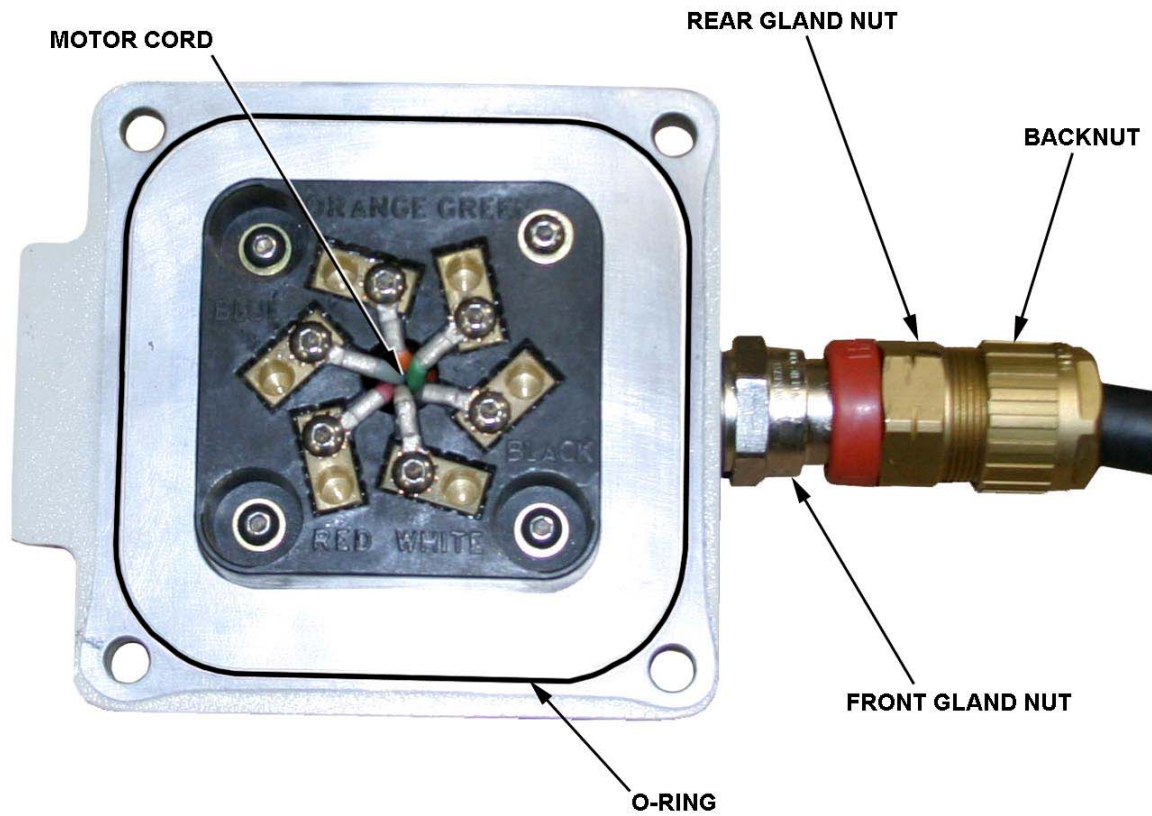

Figure 4 Motor Cord Connections to Power Connector
1. Remove cover from motor junction box, and discard O-ring (Figure 4).